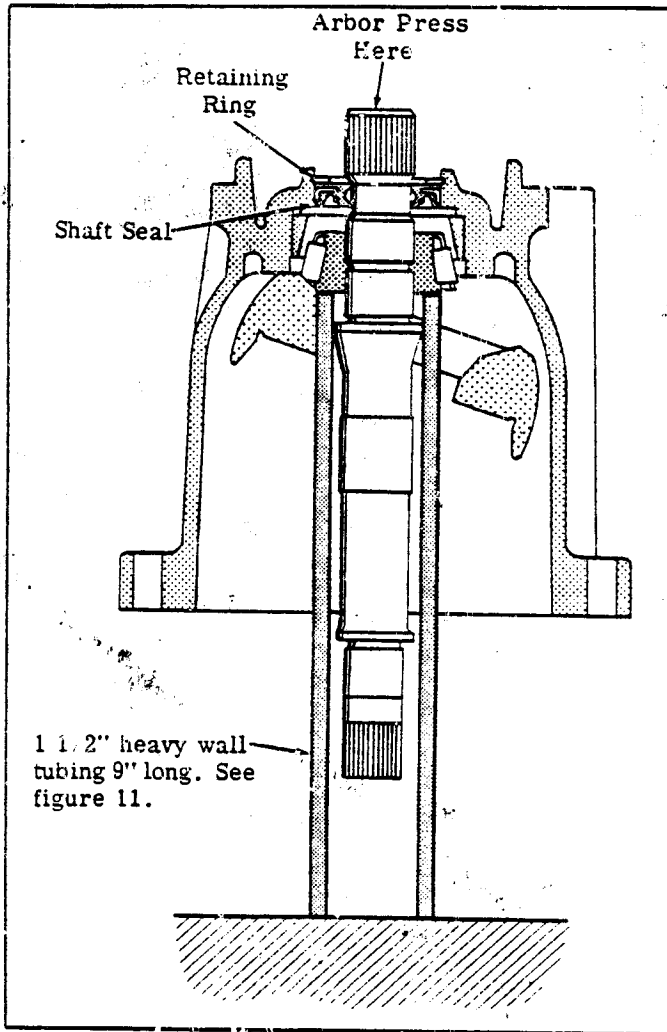

Figure 20. Front Bearing Removal
1. Install a nine inch piece of 1 1/2" heavy wall tubing over drive shaft (55) within the housing. The end of the tubing will rest against the inner race of tapered roller bearing (56) and extend out beyond the end of the pump housing. Place the complete unit with tubing into an arbor press with drive spline up. Press the drive shaft through the bearing and out of the unit. A 0.001 press exists between the shaft and bearing so considerable force is required to remove the bearing. See Figure 20.